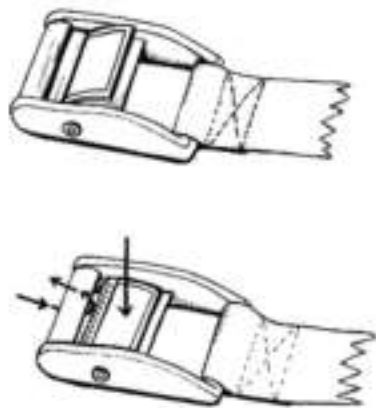

Figure 45.
STEP 6: Have one (1) adult place their weight on the bottom ladder rung. Doing so will seat the ladder into the ground. **NOTE:** The bottom ladder rung shall be flush with the ground for safe operation.
STEP 7: With the stabilizer straps with cam buckles installed as outlined, slip the cam buckle with short strap through the loops on the bottom of the stabilizing straps with cam buckles (as shown in Figure 44) and wrap the cam buckle with short strap around the tree trunk as shown in Figure 44. Locate the free end of the stabilizer strap (installed on the ladder bridge) and insert this end into the cam buckle on the cambuckle with short strap as shown in Figure 44. Thread the cam buckle as shown in Figure 45, and cinch the stabilizing strap tight. Make certain the cam buckle strap is not twisted and is tight. With the cambuckle with short strap installed on the tree and tightened, and while standing on the ground, pull the two (2) stabilizing straps with cam buckles tight. Do not over-tighten.